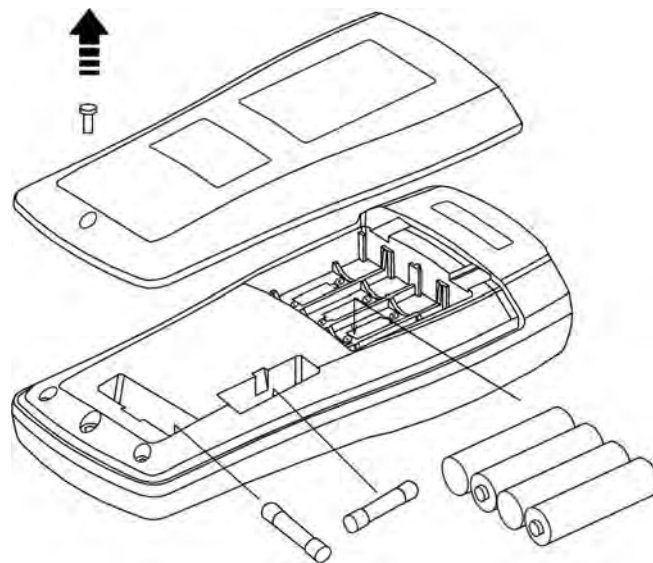

Fig. 11: Replacing the batteries and the internal fuses
3. Remove the batteries and insert the same number of batteries of the same type (see § 6.1.3) respecting the correct polarity, then restore the battery compartment cover (see Fig. 11). Use the relevant containers for battery disposal.